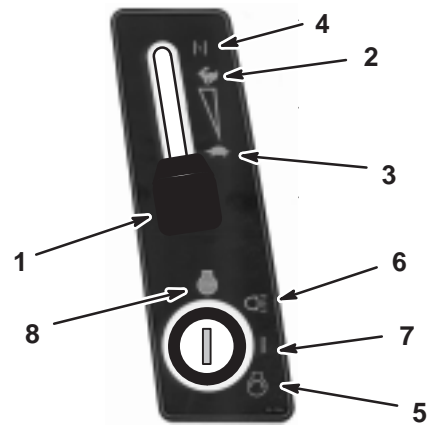

Figure 11
5. When starting a cold engine, shift the throttle control lever to the Choke position (Fig. 11).
6. Shift the throttle control lever to the Slow position (Fig. 11).
7. Turn the ignition key clockwise and hold it in the Start position (Fig. 11). When the engine starts, release the key.
8. After the engine starts, slowly shift the throttle control lever to Fast (Fig. 11).
1. Move the throttle control lever to Slow (Fig. 11).
2. Turn the ignition key to Off (Fig. 11).